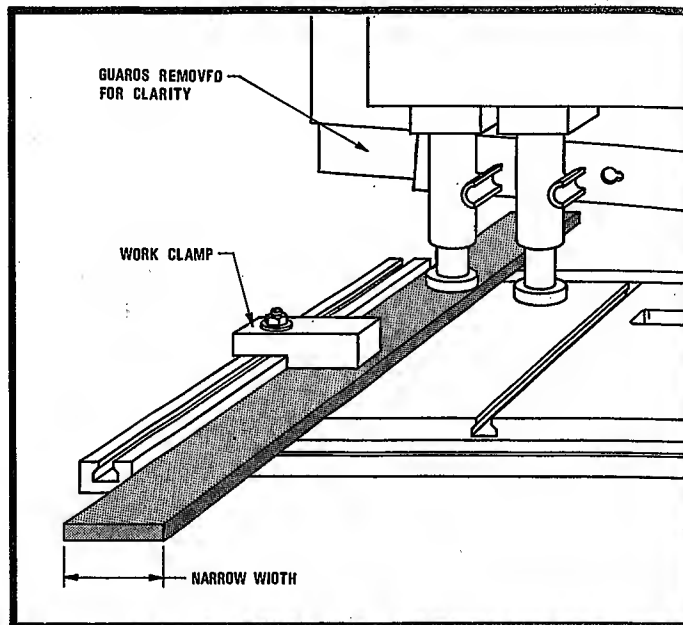

FIGURE 14
3. If the material being sheared is not wide enough to clamp with two holddowns, and is of maximum capacity for the shear, it may be necessary to provide a manual clamping device to prevent possible "tip-up". See Figure 14 for a suggested type of clamp.